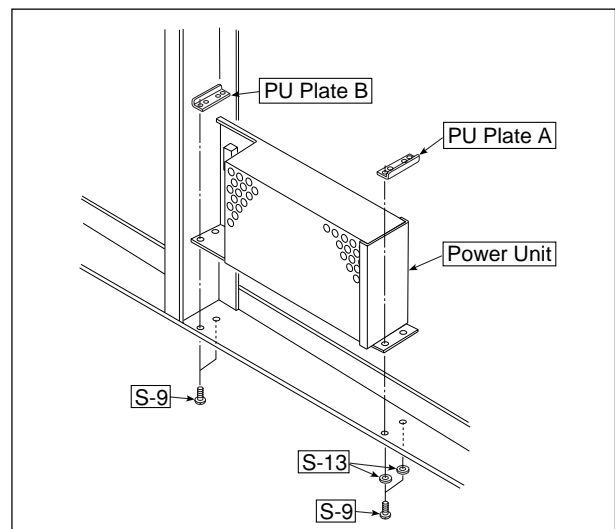

Fig. 8
3. Remove the "S-9" screw shown in Fig. 8 and then remove the Power Unit.